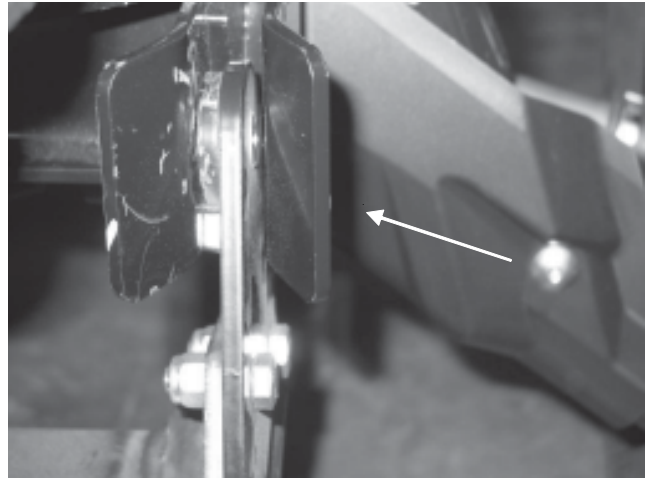

Figure 7
9. Lift the plow push tubes into the plow mount by locating the puck of the bolt on flanges (A2 & A3) to the cradles of the plow mount (fig. 7). Push retaining pins through the plow mount alignment tabs and lock the clips in place.